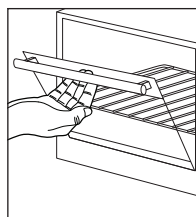

Figure 2
Step 2: Pull down the oven door carefully (See Figure 2).